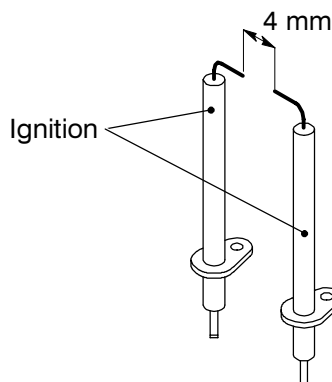

Fig. 76
- 2 Check for the correct distance between the metallic edges of the ignition electrodes (see Fig. 76).